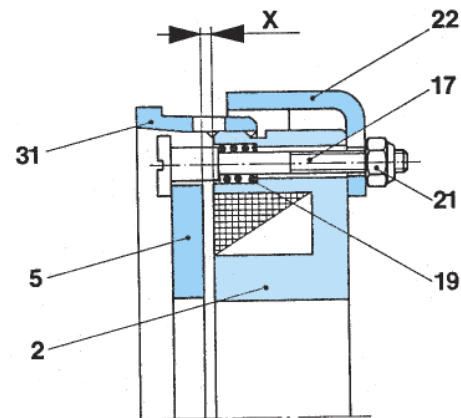

Fig. 3
The restoring bolts (17) limit the armature disk (5) stroke in the direction of the brake, see Figs. 3 and 4.
The restoring bolts (17) may only be pulled over the locking nuts (21) so far that at least the adjustment dimension „X“ (acc. Table 2 and Fig. 3) remains between the armature disk (5) and the coil carrier.